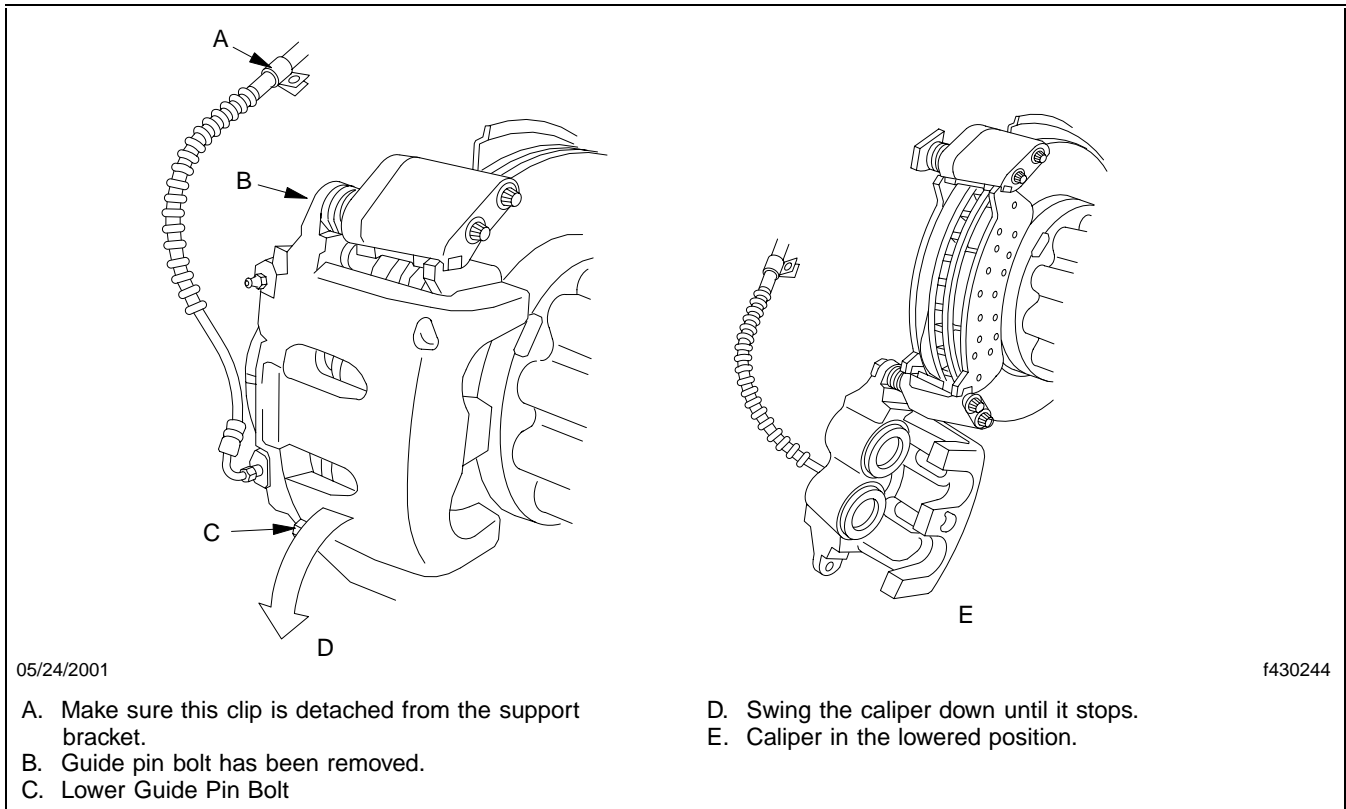

Fig. 8, Rotating the Caliper Away from the Rotor
4. Swing the caliper assembly away from the rotor by carefully rotating the caliper on the lower pin mounting bolt and guide pin. See **Fig. 8**. Do not allow the brake line hose to become pinched or kinked.